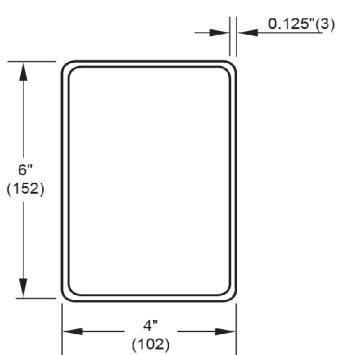
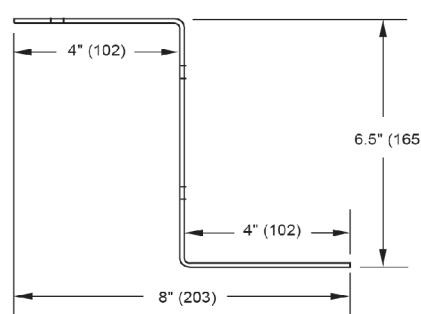

Figure 1: Mullion Tube
Figure 3: Shelf Bracket
Fabricate mullion tubes from 6" x 4" x 1/8" thick (152 x 102 x 3) hot rolled steel tubing (Construction Fig 1). Size mullion tube to be a $2 \pm 1/2"$ (51 ± 13) shorter than the height of the rough opening. Fabricate two mullion support brackets per each mullion tube from 10 gauge (3.5) galvanized steel (Construction Details Fig 2). The brackets are to be assembled from one shelf bracket and from two support angles (See Construction Details Fig 3 & 4). The shelf bracket and support angles must be bolted together with minimum 5/16" x 1" (M8 x 25) diameter zinc plated or stainless steel carriage bolts to create the mullion support bracket. The mullion tube must overlap each support bracket by a minimum of 6" (152) (See Detail B-B).